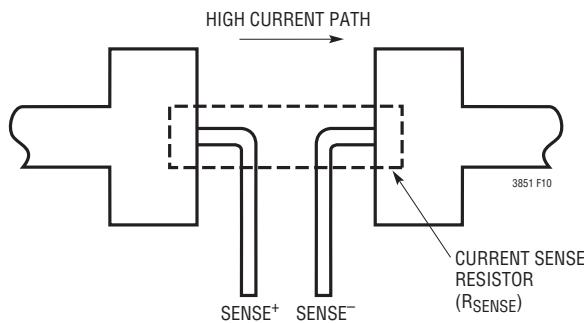

Figure 10. Kelvin Sensing  $R_{SENSE}$
3. Are the  $SENSE^-$  and  $SENSE^+$  leads routed together with minimum PC trace spacing? The filter capacitor between  $SENSE^+$  and  $SENSE^-$  should be as close as possible to the LTC3851. Ensure accurate current sensing with Kelvin connections as shown in Figure 10. Series resistance can be added to the  $SENSE$  lines to increase noise rejection and to compensate for the ESL of  $R_{SENSE}$ .